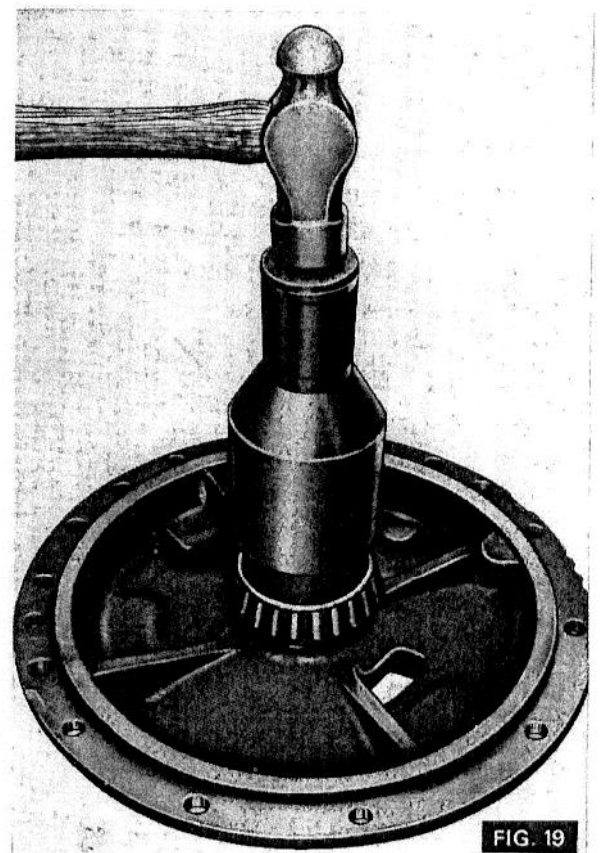

FIG. 19
3. (Fig. 19) Replace the bearing cone using tool MF 197 and 197 - 2.